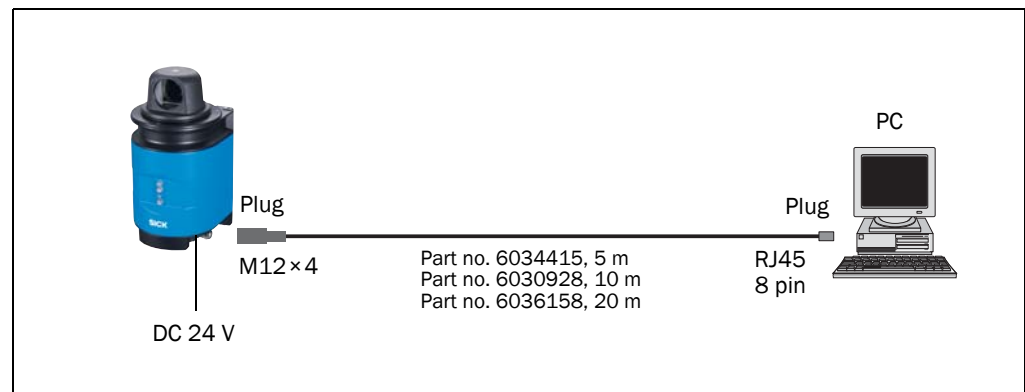

Fig. 28: Ethernet connection
- Connect the PC to the NAV350 using the Ethernet cable (see fig. 28 on page 48)